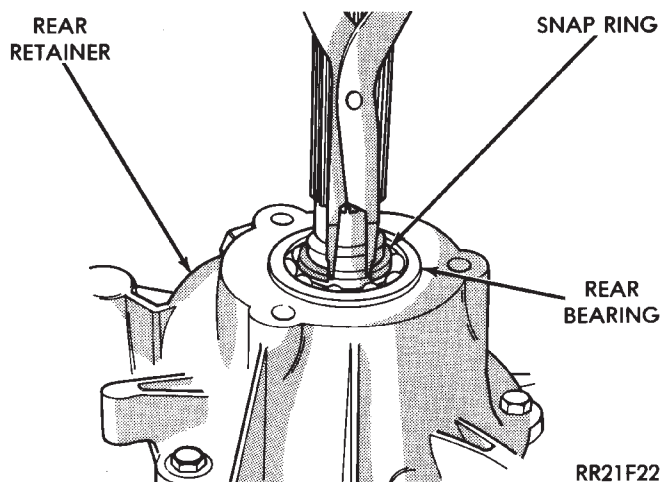

Fig. 69 Installing Output (Rear) Bearing Snap Ring
(12) Apply 3 mm (1/8 in.) wide bead of Mopar gasket maker, silicone adhesive sealer, or Loctite 518 to flange surface of rear retainer.
(13) Align and install rear retainer on rear case. Install and tighten retainer bolts to 27-34 N m (20-25 ft. lbs.) torque.
(14) Install new output bearing snap ring (Fig. 69). Lift mainshaft slightly to seat snap ring in shaft groove if necessary.